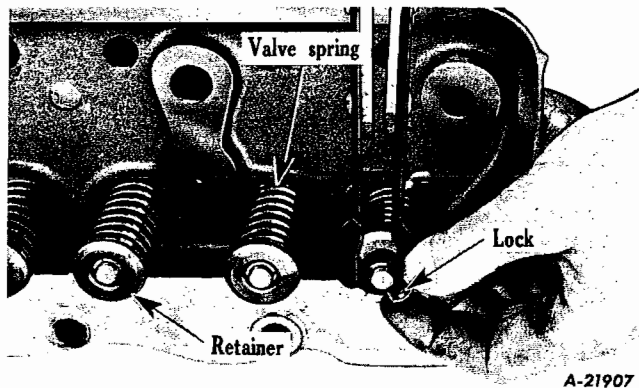
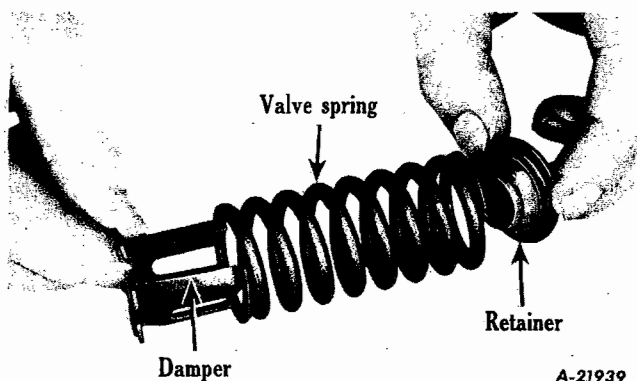

Fig. 14
Fig. 15 - Dampers are used at all the valves. Assemble damper, spring and retainer as shown.
1. Compress valve spring with a valve compressor and remove valve spring retainer locks (Fig. 14). Remove retainer. Remove valve spring and damper and separate valve spring damper from valve spring. Note that valve springs can be installed with either end toward the cylinder head. Remove all valve springs as outlined, and remove valve spring damper from each spring (Fig. 15).